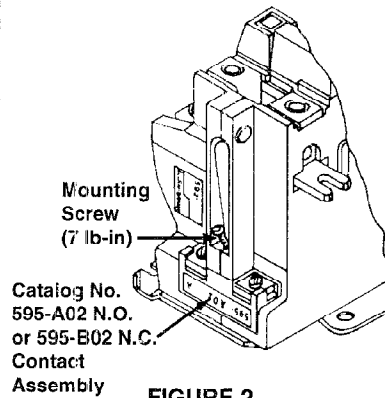

FIGURE 2
2. Slide contact assembly into the overcurrent relay (Figure 2) and secure using screw provided. (#4-24 x 3/4" self tap type AB) (Torque 7lb-in).